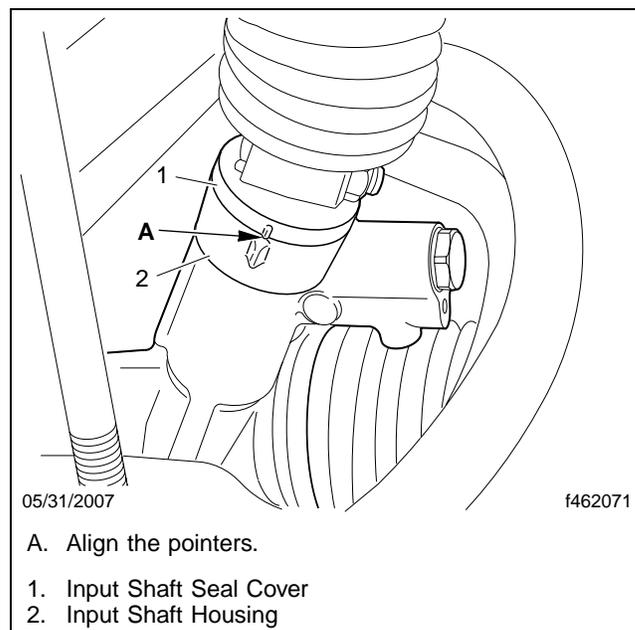

Fig. 13, Pointer Alignment
- 45.2 Align the pointers on the input shaft seal cover and the input shaft housing. See **Fig. 13**.
- 50.2 With the wheels on turnplates, center the rack travel by aligning the timing pointers on the input shaft seal cover and the input shaft housing. See **Fig. 13**.